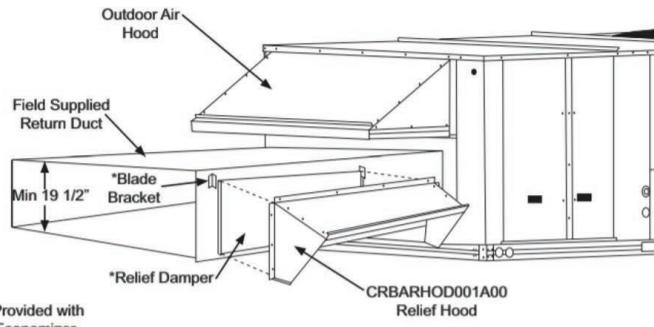

**Fig. 35 — Relief Damper**
1. Install the field provided horizontal ductwork onto the unit. Duct height must be at least 19 1/2 inches high, however the duct can be no taller than the top of the relief opening in the bottom panel, or airflow into the outside air hood will be restricted. See Fig. 35.
2. Cut a 16 in. x 36 in. opening in the return duct for the relief damper (see Fig. 35).